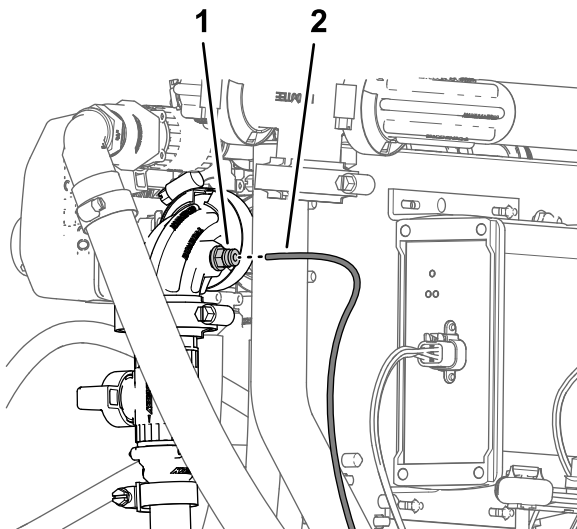

Figure 138
5. Align the end of the pressure-sense tube (plastic) for the pressure gauge in the dash with the locking collar for the tube coupler in the 90° fitting of the shutoff valve of the hand spray wand or the electric hose reel kit (Figure 138).
6. Insert the sense tube into the locking collar until the tube is fully seated (Figure 138).